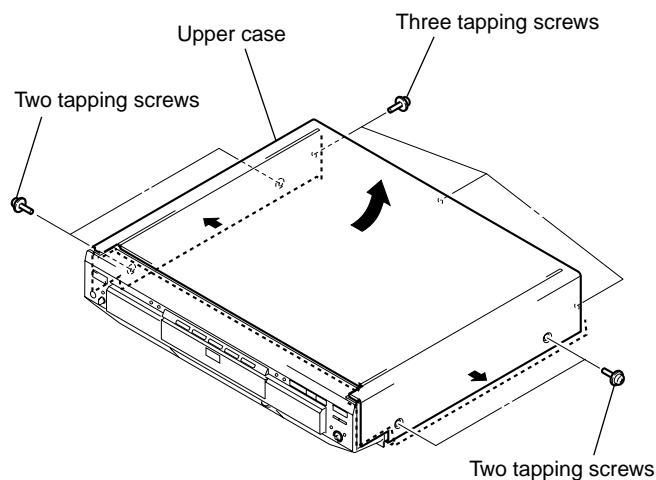

Fig. 1
- 1) Remove seven tapping screws. (See Fig. 1)
- 2) Open the side of case. (See Fig. 1)